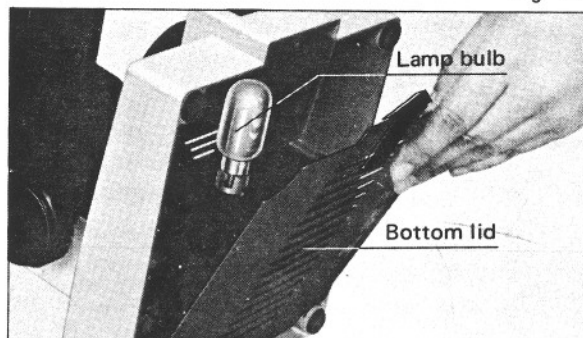

Fig. 12
- 2) Sliding the bottom lid to the side of the set screw, remove it. The lamp bulb will then be accessible. (Fig. 12)